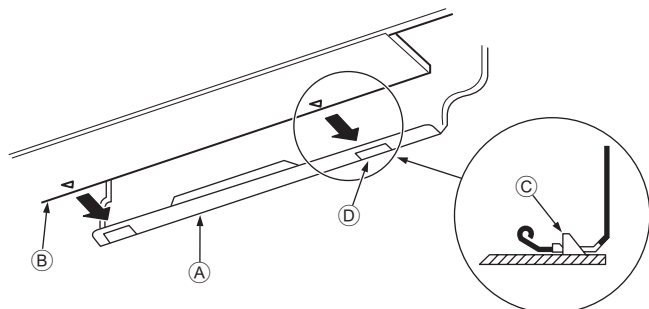

Fig. 3-10
3. While inserting the refrigerant piping and drain hose into the wall penetration hole (penetration sleeve), hang the top of the indoor unit to the mount board ①.
5. Fasten by pushing the bottom part of the indoor unit onto the mount board ①. (Fig. 3-10)
* Check that the knobs on the bottom of the indoor unit are securely hooked into the mount board ①.
① Mount board
② Indoor unit
③ Hook
④ square hole